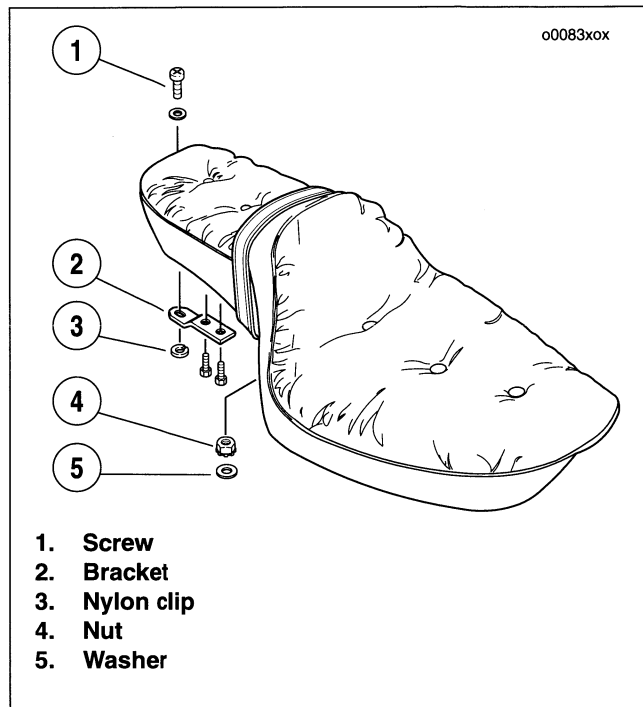

Figure 44. FXD Seat
1. See Figure 44. Detach seat mounting bracket from top of rear fender.